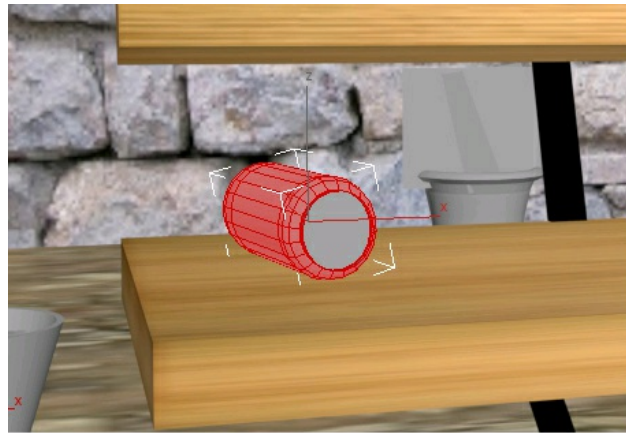

Figure 7-105 Rest of the polygons selected
15. Click on the cap of *can* again and then press CTRL+i; rest of the polygons of *can* are selected, as shown in Figure 7-105. Next, enter **1** in the **Set ID** spinner of **Polygon: Material IDs** area, if not already set.